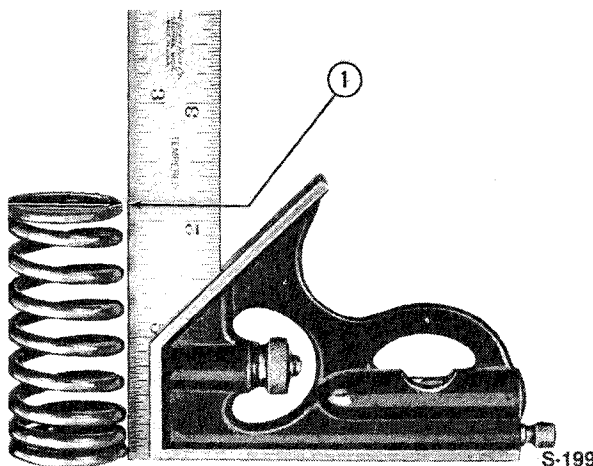

Figure 17
10. Replace worn or damaged valve springs. Check for squareness and reject if out-of-squareness exceeds 0.06 in. (1.5 mm). Figure 17. Check the free length and loaded length of each valve spring, see "Specifications"—Chapter 3. Be sure the valve spring retainer locks are in good condition and the exhaust valve rotators are not binding or worn.